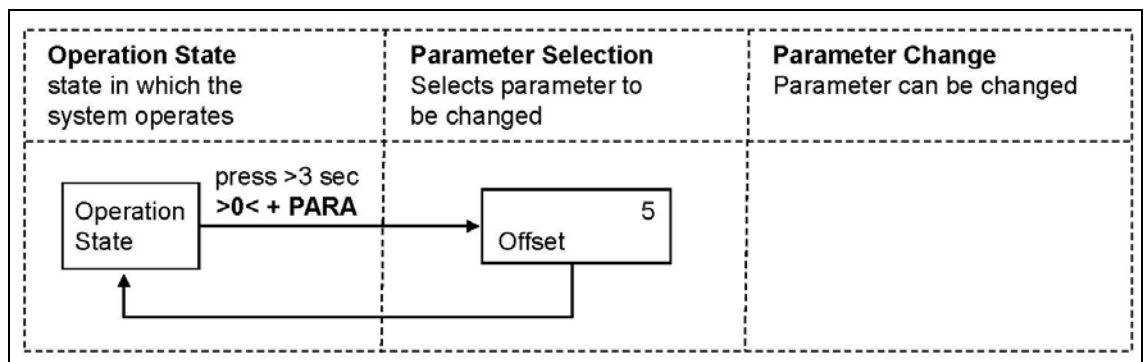

Fig. 4: State diagram offset compensation
2. The offset compensation is done automatically.(see state diagram **Fig.4**)